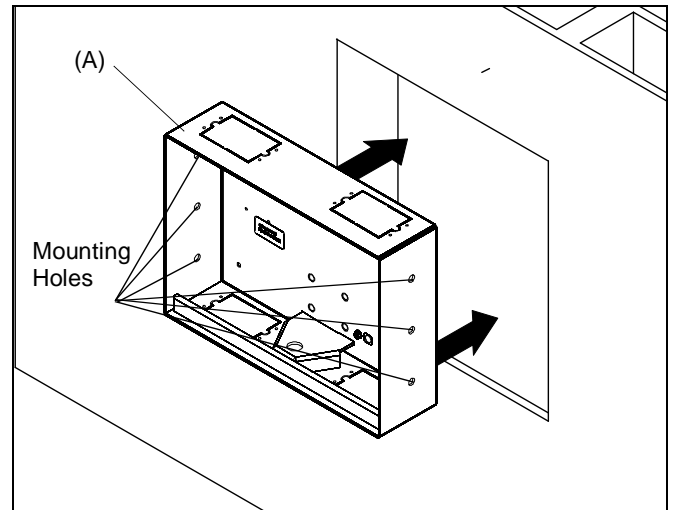

Figure 2
1. Install PAC-GB1 electrical box accessory into the FAC-501 (A) following instructions included with the PAC-GB1.
4. Center FAC-501 (A) in opening and insert into opening. Align front of box with front face of wall. (See Figure 2)